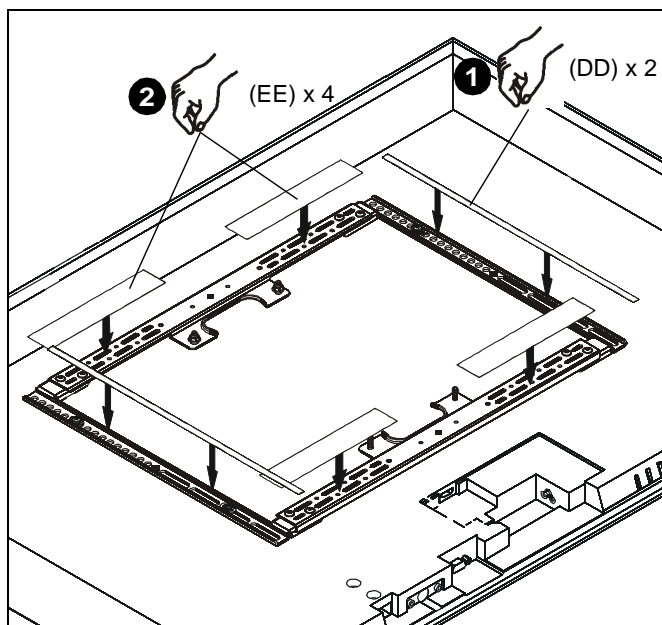

Figure 36
1. Use two long adhesive strips (DD) to cover vertical uprights. (See Figure 36)
2. Use four short adhesive strips (EE) to cover horizontal upright supports. (See Figure 36)